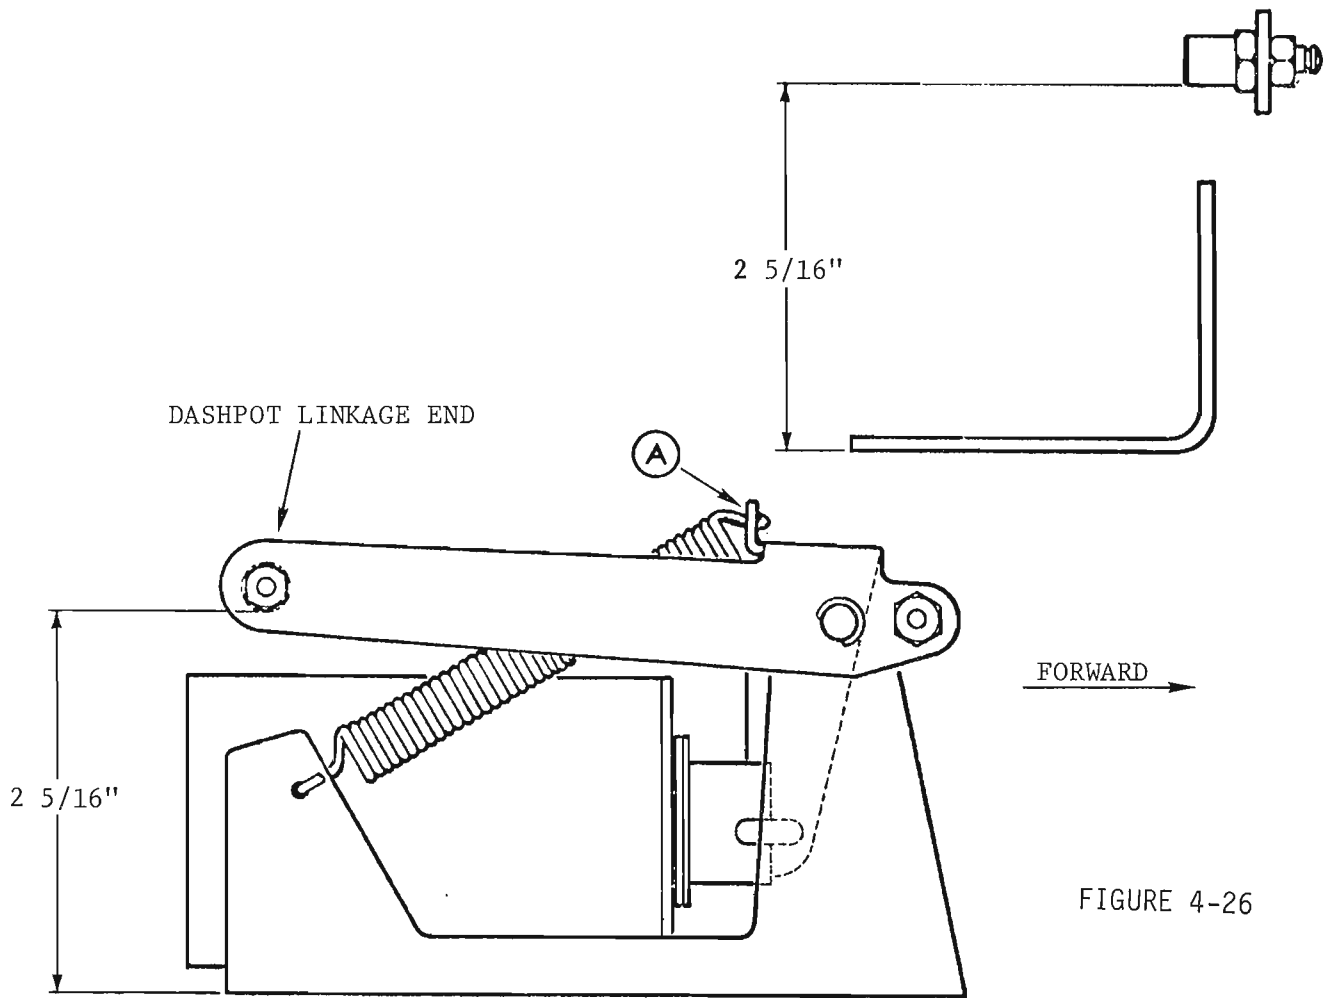

FIGURE 4-26
Insufficient throw can cause the rollers on the R/W Head Assembly to drag on the head load bails. The best solenoid performance is obtained when the throw is adjusted to the specification shown in Figure 4-26.
3. Remove the two "C-clips" from the Head Load Linkage (B) and the Dashpot Linkage (C), as shown in Figure 4-26.
To meet the specifications as shown in Figure 4-26, remove the spring from the "A" end, and loosen the four (4) screws shown in Figure 4-28.